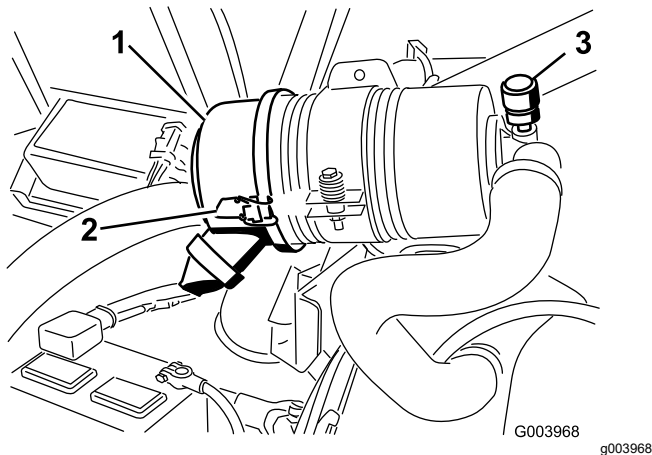

Figure 73
Service the air cleaner filter only when the service indicator (Figure 73) requires it. Changing the air filter before it is necessary only increases the chance of dirt entering the engine when the filter is removed.
1. Release the latches securing the air-cleaner cover to the air-cleaner body (Figure 73).